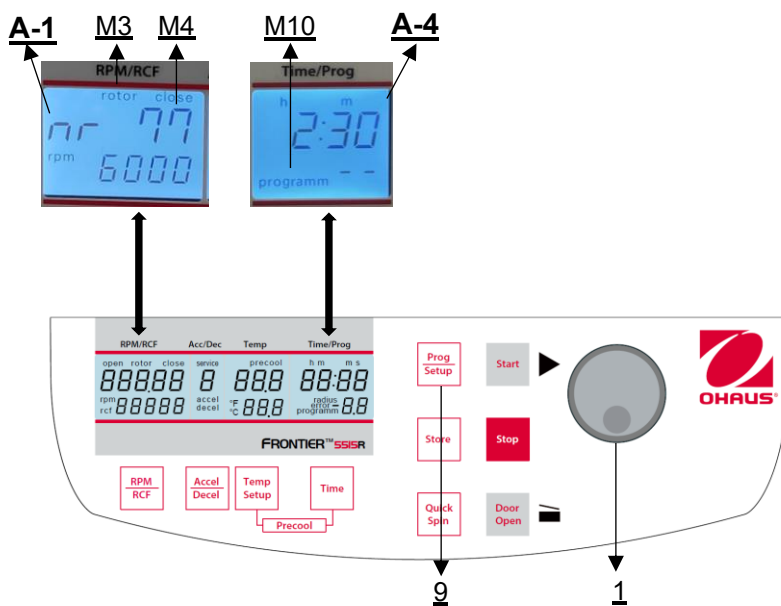

Figure 25
To recall stored programs, press the key **"Prog/Setup"** (9) (see **Figure 25**) while the lid is already closed. Inside the display **"Time/Prog"** (A-4), **"program--"** (M10) appears. The desired program number can be pre-selected with the adjusting knob (1).
To leave the program mode just press the key **"Prog/Setup"** (9) (see **Figure 25**). Then inside the display **"Time/Prog"** (A-1) the word **"programm"** (M10) appears. Set the display to **"programm--"** (M10) with the adjusting knob (1).